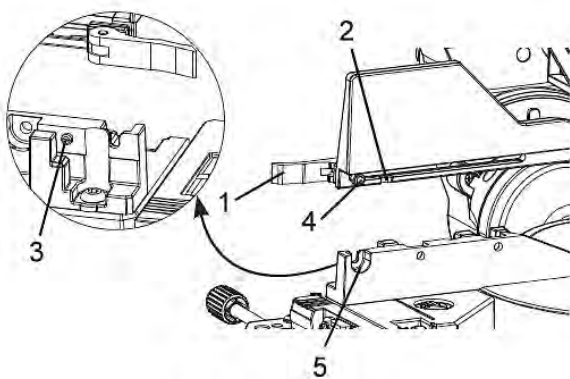

Fig. 14: Attaching and removing the sliding stop
7.8 Attaching and removing the sliding stop (Fig. 14)
Remove (Fig. 14)
Apply (Fig. 14)